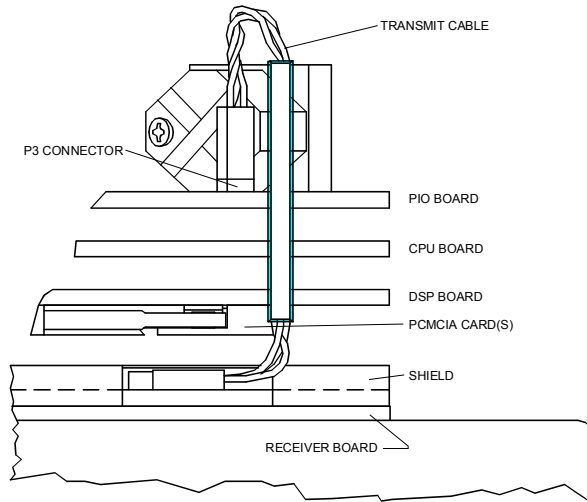

Figure 45. Transmit Cable
- c. Note the orientation of the transmit cable connector as it is plugged into the PIO board and to the Receiver board (see Figure 45, page 128).